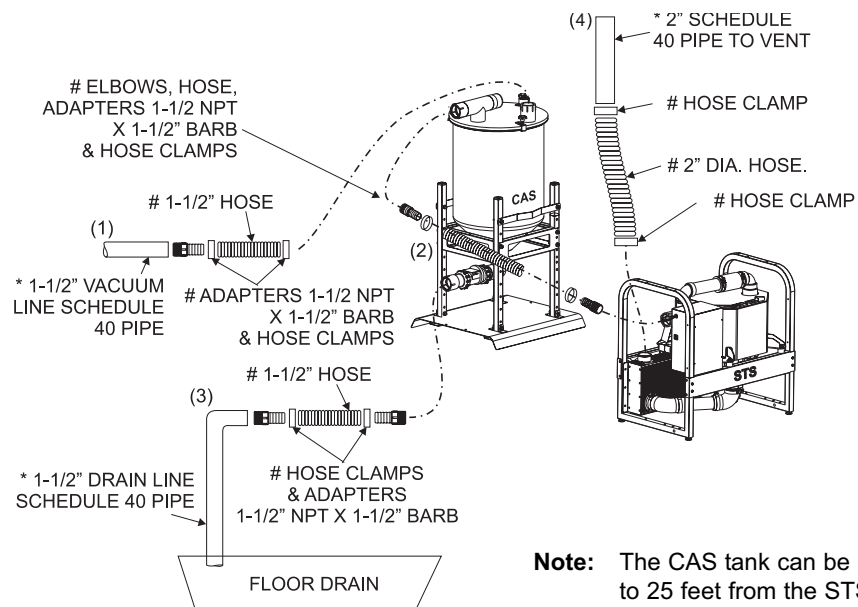
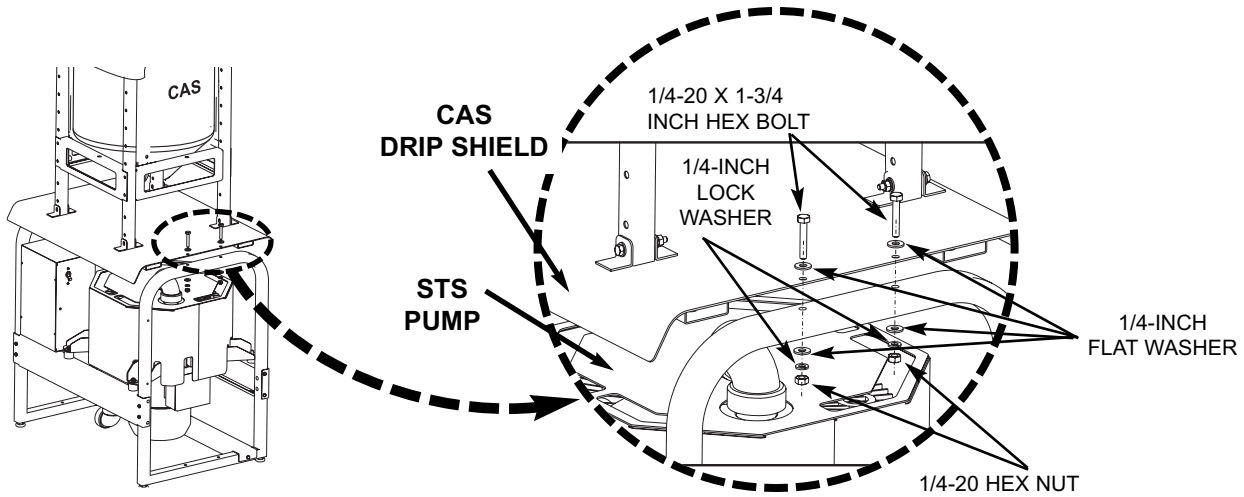
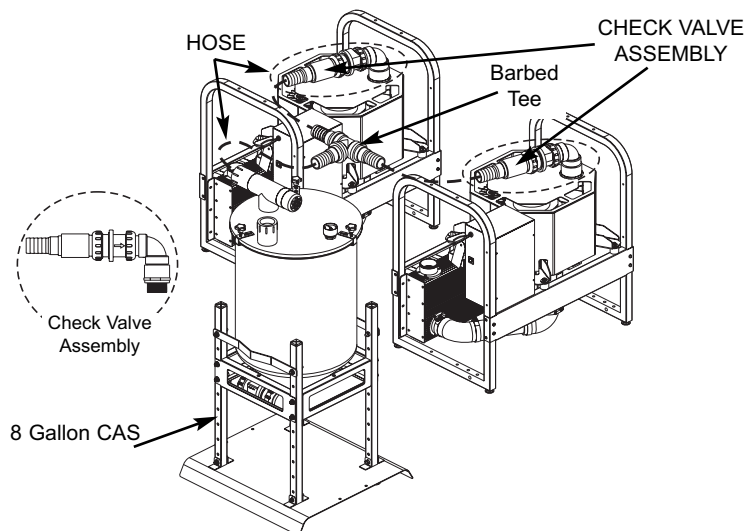

Figure 5. STS Pump and CAS Tank Pipe Connection Diagram
Figure 6. Stacking the CAS on Top of a STS Pump Hardware Detail
Figure 8. Pump Combining Using Accessory Kit, P/N 54400
STS-5/STS-10 Configuration Dimensions. Figure 5 shows the space requirements for the installation of the STS-5 and STS-10 model configurations. Please note that all CAS heights can be increased by 4 inches and decreased by 6 inches using the adjusting holes in the 4-rail support assembly.
Installation Accessory Packs . Figure 5 shows the pipe and hose connections required for all STS configuration installations using accessory packs as follows:
Connection Procedure. Installation of a single STS model configurations consist of making connections between a single 8 gallon CAS tank, P/N 54300, and a STS pump, P/N 54180. Refer to Figure 5 for the connection diagram and perform the following procedure.
3. When stacking the CAS tank on top of a STS pump, refer to Figure 6 and secure the tank to pump using supplied hardware. Make sure to bolt or secure installation to the floor or wall when stacking any STS system.
6. Using industry standard techniques, install pipe to hose adapters as shown in Pipe Connection Diagram Figure 5.
Installation Accessory Packs . Figure 5 shows the pipe and hose connections required for a dual STS configuration installation using accessory packs as follows:
Connection Procedure. Installation of the dual STS model configuration consists of making connections between a single 8 gallon CAS tank P/N 54300, and two STS pumps, P/N 54180. Refer to Figure 5 and perform the following procedure. The tank and associated pumps can be stacked or installed side-by-side depending on the size of the installation site. When stacking the CAS tank and two STS pumps, refer to Figures 6 and 7 showing the method to secure the tank and pumps. In any case, the hose connections between the suction line and CAS tank, the CAS tank and drain line and pump to the facility vent line are identical as shown by Figure 5. Use the STST™ Dual Manifold Accessory Kit; P/N 54400 to connect the two STS pumps together for connection to the CAS tank as shown by Figure 8. Refer to Figures 5 through 8 and perform the following procedure.
1. Install check valves supplied in Dual Manifold Accessory Kit; P/N 54400, on both pumps as shown by Figure 8.
5. Refer to Figure 6 and stack the CAS tank onto the two STS pumps. Secure the tank to the top pump using supplied hardware.
6. Measure and record distance between each connection point as shown in the corresponding Pipe Connection Diagram (Figures 5 and 8).
8. Using industry standard techniques, install pipe to hose adapters as shown in the corresponding Pipe Connection Diagram (Figures 5 and 8).